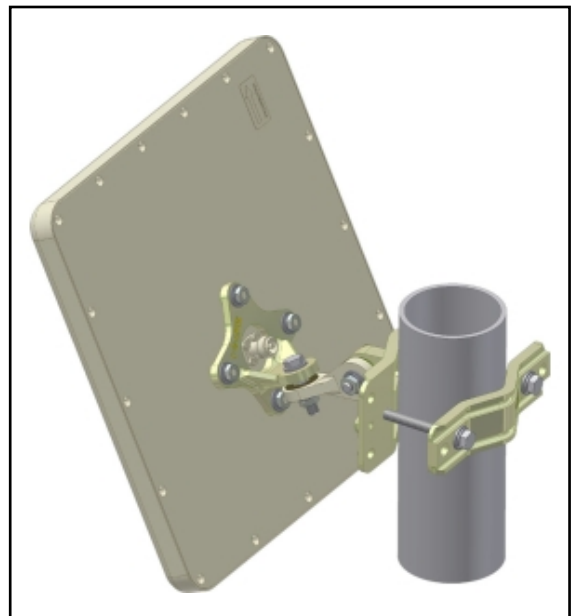

Figure 6-7: Pole Mounted Directional Antenna Example
3. Attach the mounting section to the pole using an adjustable pipe clamp (part of MNT-2 kit), as shown in Figure 6-7